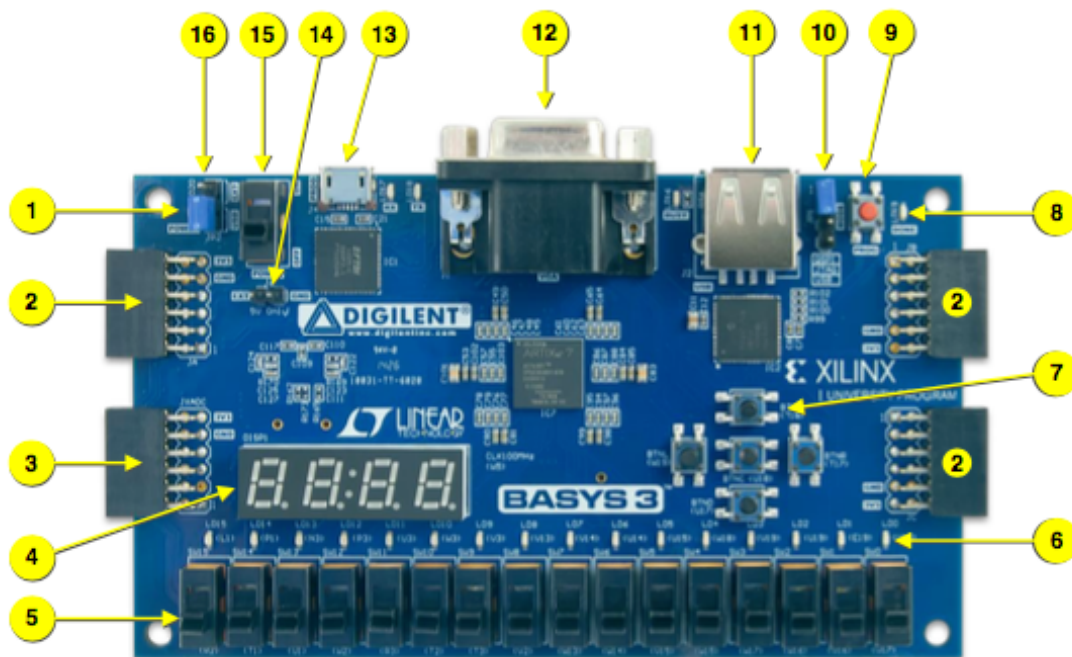

Figure 1. Basys 3 FPGA Board
Basys 3 board is a Field Programmable Gate Array (FPGA) digital circuit development platform that we will use to implement digital circuits in this class, as shown in Figure 1. The board is centered around a Xilinx Artix-7 FPGA chip. It also provides rich I/O resources for users to test/implement a digital device. These include switches, LEDs, pushbuttons, seven-segment displays, VGA output, USB port, etc. The switches and pushbuttons can be used to provide digital input signals and the LEDs can be used to capture the digital outputs. There are also four seven-segment displays (SSDs) for outputs. All these I/O resources are physically connected to the FPGA chip.
- Wait... (this may take a few minutes), when the process is finished, the DONE LED on the FPGA board ( in Figure 1) should be lit;